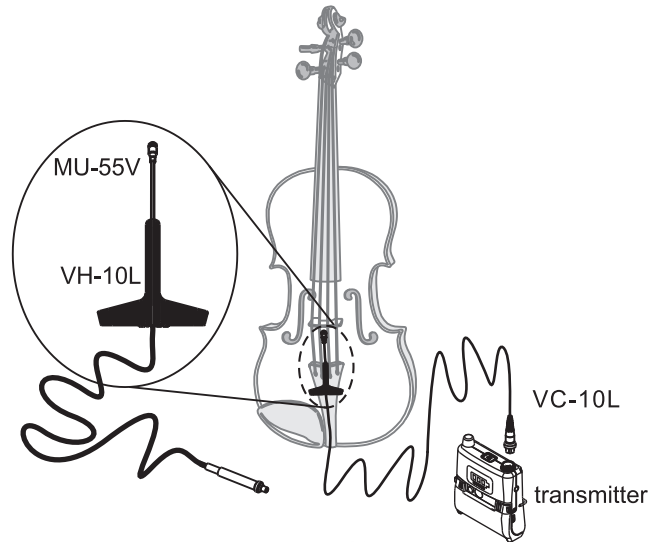

Fig. 10
7. Transmitter Installation, Fig. 10:
- (A) Put the MU-55V microphone and the VH-10L holder together, and then install it on the tailpiece of the violin / viola.
- (B) Connect it with a VC-10L cable to the transmitter.